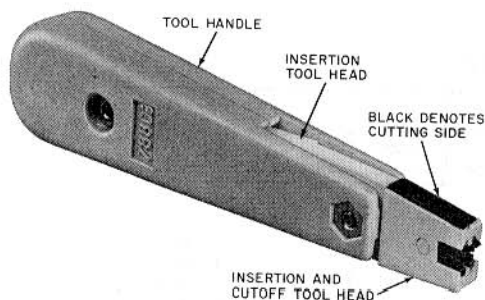

Fig. 12—788D-Type Tool, Single-Pair Insertion/Cutoff
**2.17** The single pair insertion tool ♦(788D4)♦ is supplied as a combination of the handle and insertion head. The reversible ends of the head provide either insertion/cutoff or insertion only (Fig. 12) of a single cable pair.